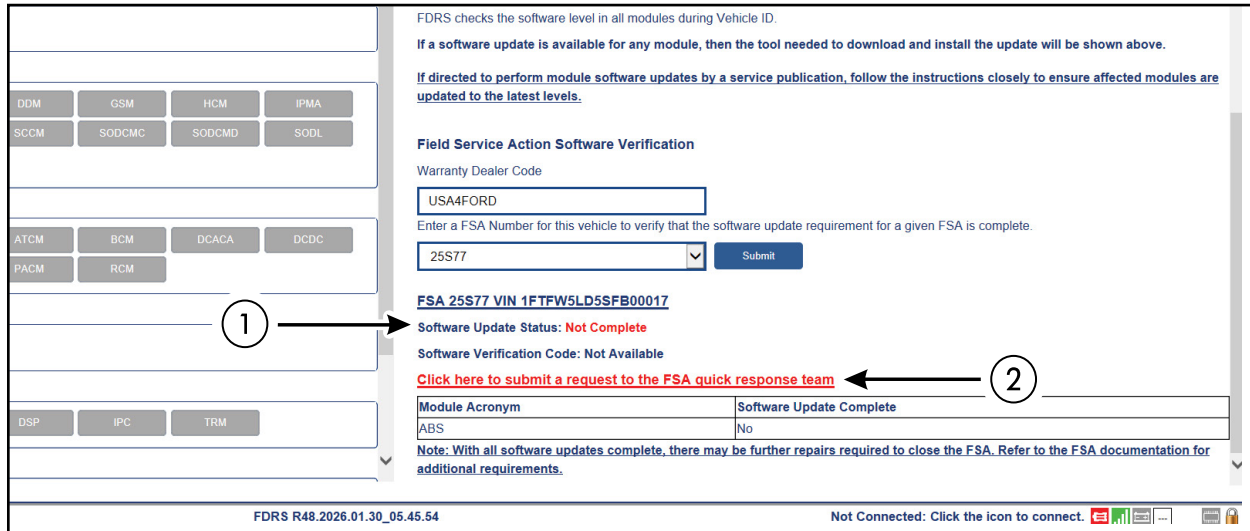

FIGURE 3
See Figure 3.
21. Use the "Click Here to submit a request to the FSA quick response team" link (2) shown in Figure 3. Follow the on-screen prompts to enter the following information: